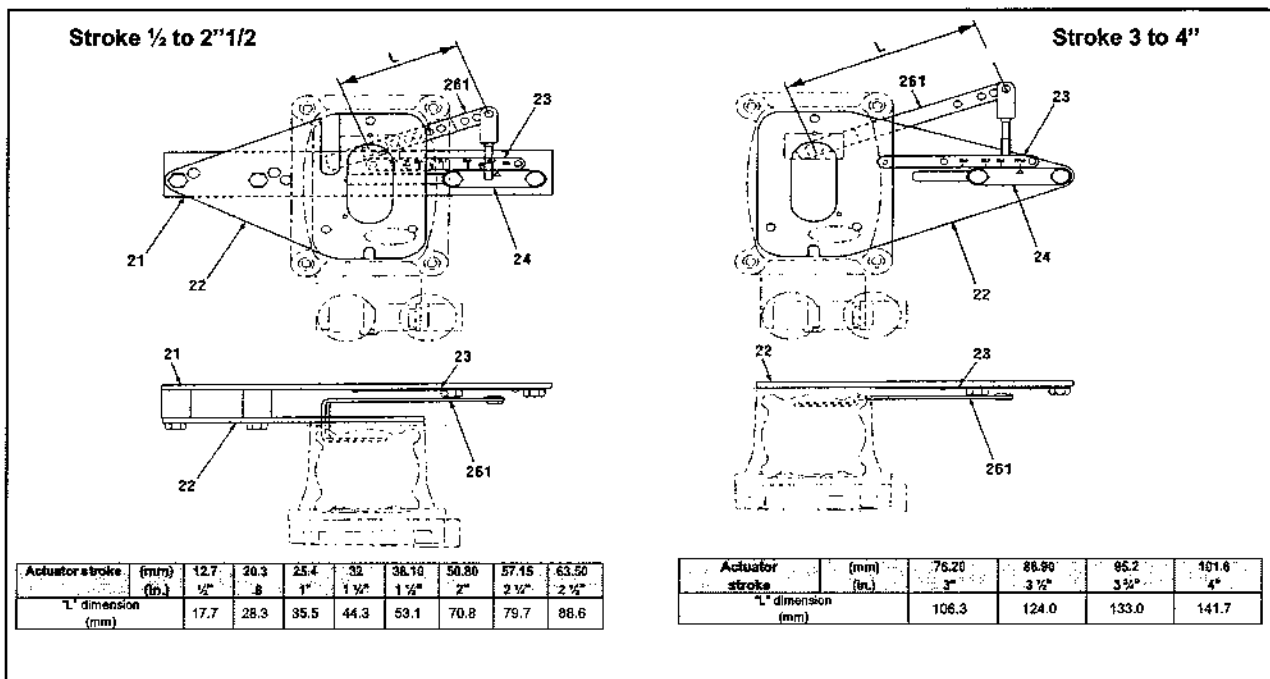

Figure A2 - Adaptation possibilities by means of bracket (22) and rear lever (261) (Front view)
2.1 Mounting of the positioner with cam (see figures A2, A3, and A4)